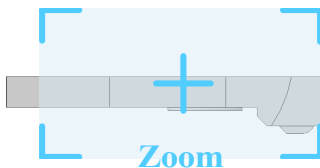

Fig. 86
Step 4. Zoom in on front, **Fig. 86**.